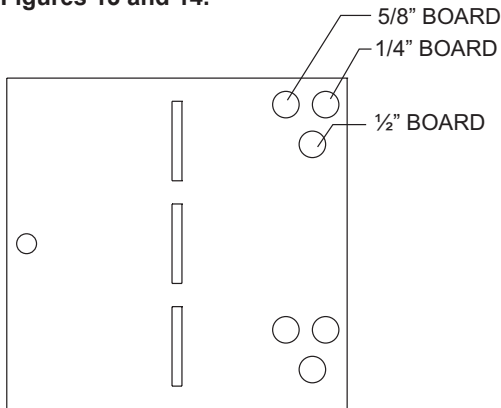
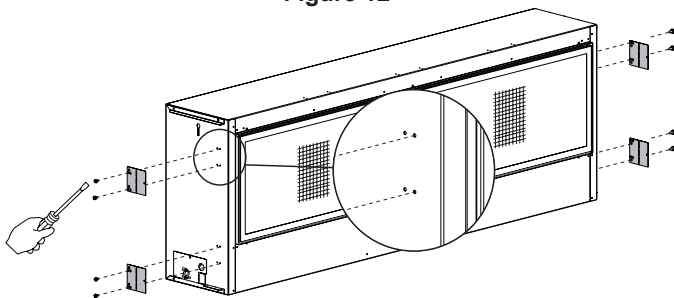

Figure 12
Figure 13 - OPTION 1
2. The holes in the nailing flanges allow for different thickness boards and depths of wall boards. See **Figure 12**. Install nailing flanges with two 10 x 12 screws (each) in pair of holes closer to the face of the fireplace. Leave the nailing flanges flat until after lifting the fireplace into the framing. See **Figures 13 and 14**.